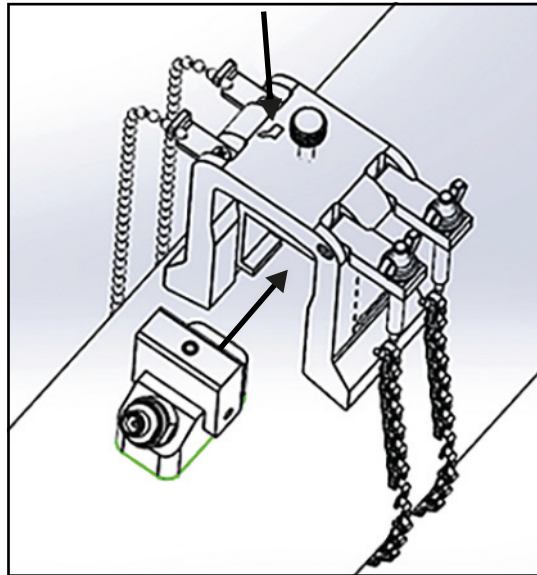

Figure 41: Insert Transducer into Yoke
8. Loosen the yoke screw. Then, apply couplant to the transducer face and insert the transducer into the yoke, as shown in *Figure 41* below.